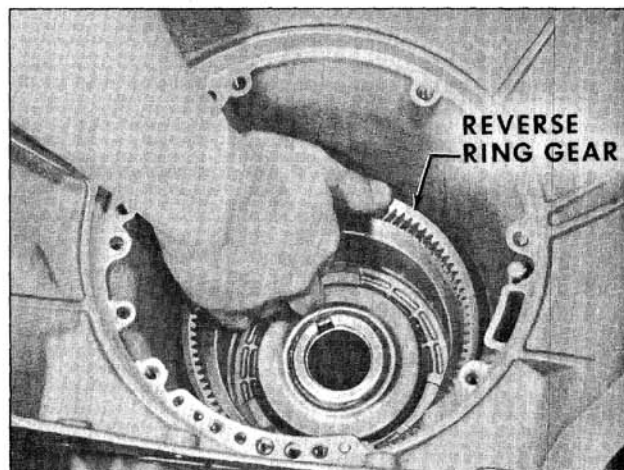

Fig. 6-497 Installing Reverse Ring Gear
2. Install reverse ring gear into case. (Fig. 6-497)